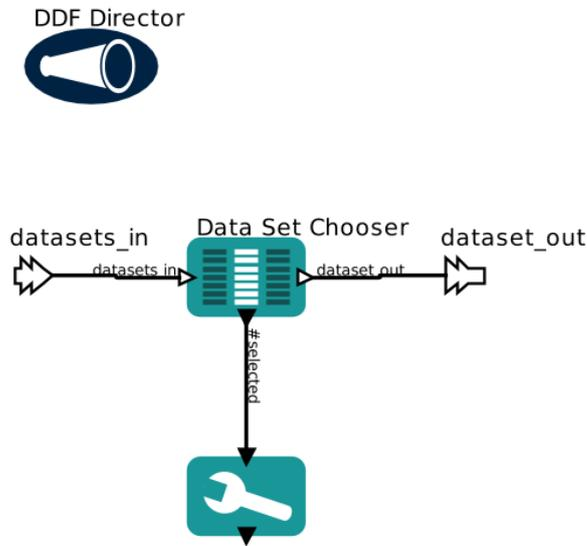

Figure 18: *Data selection actor.*
- The *DataSetChooser* should be placed in a subworkflow as shown in figure 18. The variable that has to be updated is *N_SELECTED_DATASETS*. It is important to add a *DDF Director* with parameter *runUntilDeadlockInOneIteration* checked, otherwise it is not warranted that the next actors would be triggered without the variable properly set. This variable is used for displaying purposes only.